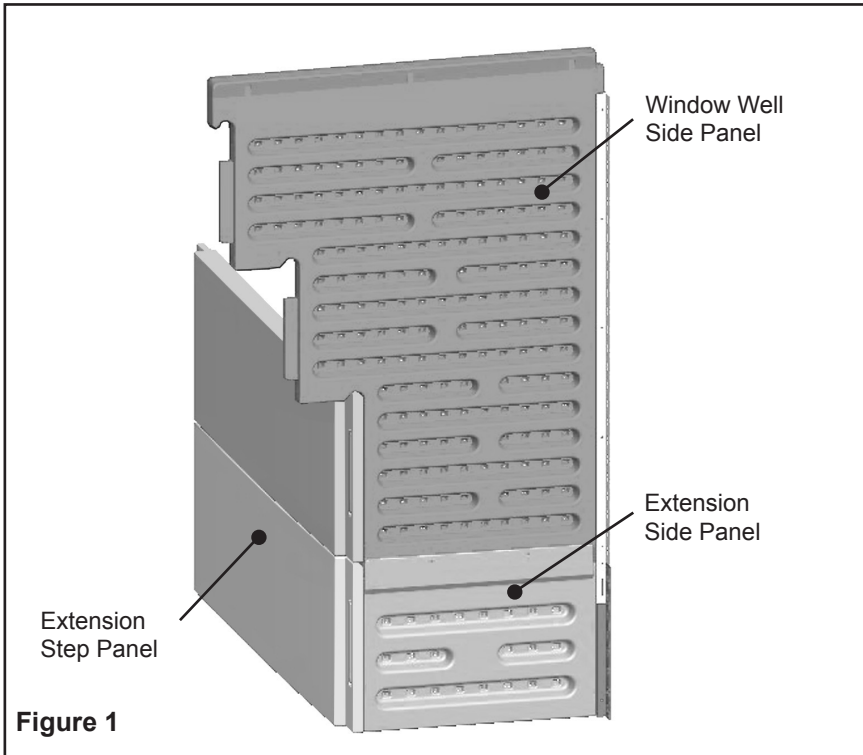

Figure 1
STEP 2: Once the window well is installed, align each extension side panel with the window well sides as shown in Figure 1 and attach them to the foundation using masonry anchors. Use (2) masonry anchors at the very top of each extension side panel and (1) at the very bottom. (Note: extension side panel mounting flanges may be repositioned to the inside if required, refer to STEP 2 of the installation instructions provided with the window well).
STEP 4: Position the extension step panel as shown in Figure 1, snapping it into place. Cross-pin the step panel to each of the extension side panels at the pre-marked location using nails per STEP 4 and FIGURE 4 of the installation instructions provided with the window well.